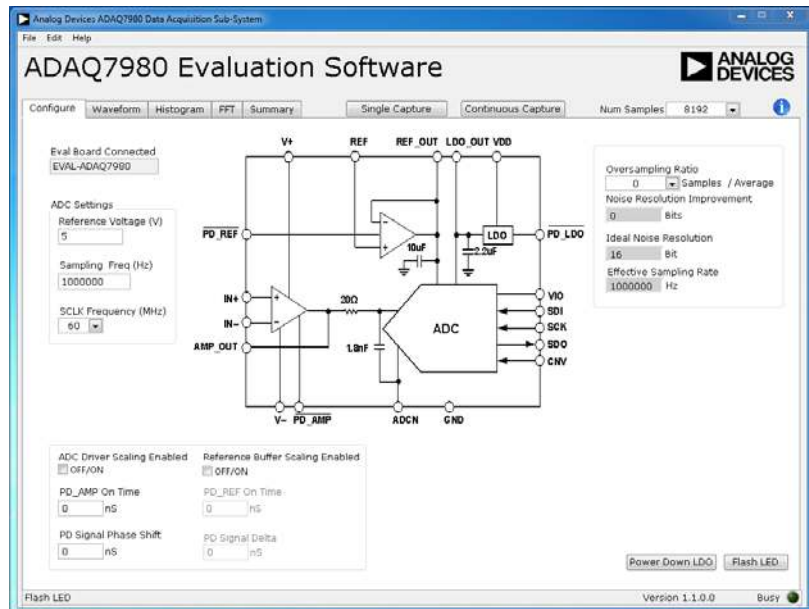

Figure 22. GUI Main Window
4. After the EVAL-ADAQ7980SDZ is detected, the main window of the software appears (see Figure 22), showing that the EVAL-ADAQ7980SDZ is connected.
The main window of the software is shown in Figure 22. The following sections describe the various controls that are accessible via this window.